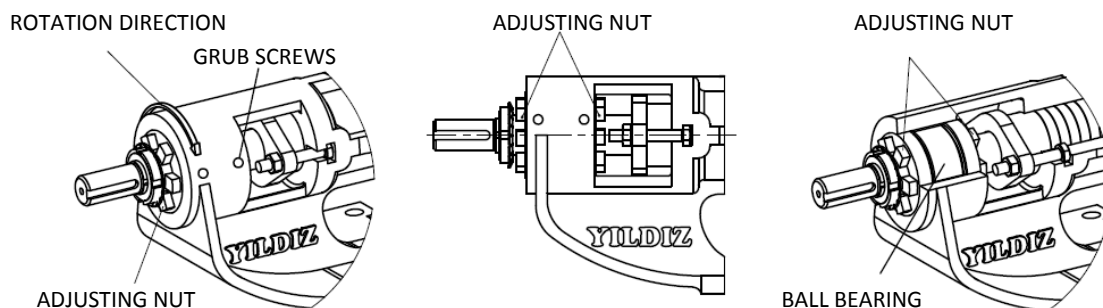

Figure 16. Micrometric Adjusts
- This is regarding pushing rotors which has been fixed on pump shaft. Rotor adjusts are made with two adjusting nuts. First loosen grub screws. Loosen inner adjusting nut, then tighten outer nut by rotating clockwise to decrease spaces. After that, loosen outer nut by rotating counterclockwise to increase spaces (See **Figure 16**). After finishing all adjustments, place back grub screws.